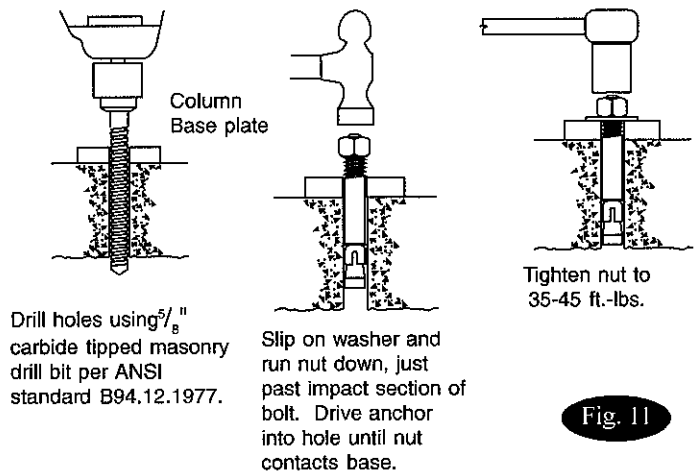
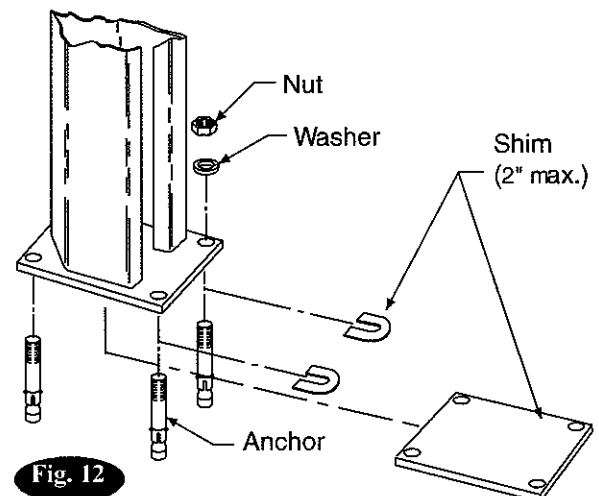

Fig. 11
Fig. 12
- Use shims provided to shim column base to plumb columns, first fore and aft then side to side. Use a 4' level to check plumb of columns. Recheck $\frac{5}{16}$ " gap between column and yoke with yoke spacer tool. Maximum shim thickness is 2", Fig. 12. If more shimming is required, consult factory for different shim package including longer anchor bolts. Drill four $\frac{5}{8}$ " diameter holes through concrete floor using base holes as guide, Fig. 11. Repeat for other columns.
- Insert base anchors, Fig. 11. Repeat for other columns. Tighten nuts. Recheck columns for plumb. Re-shim if necessary. Torque anchor bolts to 35-45 ft. lbs., Fig. 11. If anchor bolts do not hold when torqued to required amount, concrete must be replaced. Saw cut and remove 24" x 24"